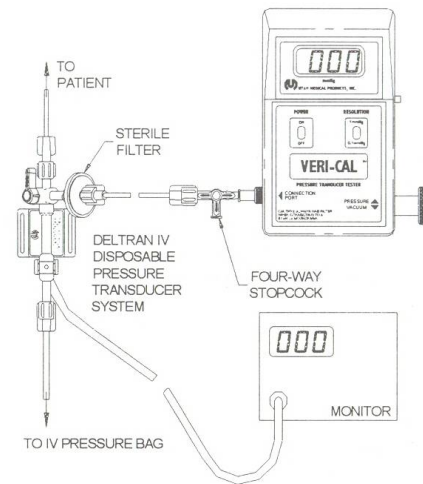

Figure 2
- b. Position the handles on the stopcocks as shown in Figure 2 in order to vent the transducer and Veri-Cal to atmosphere.